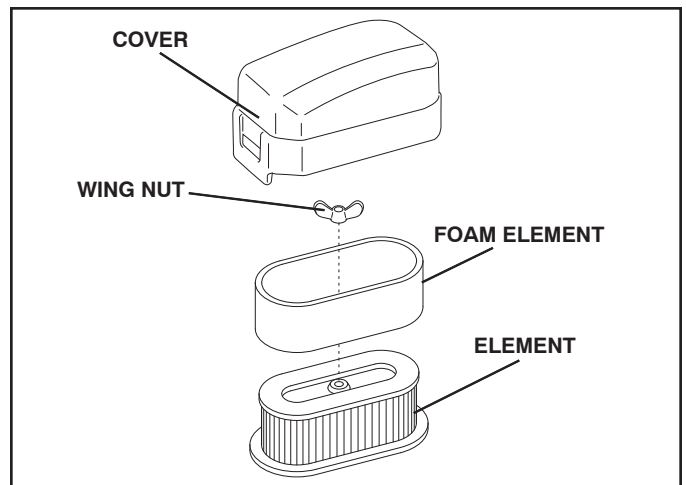

Fig. 20
- Urethane Foam cleaning (See Fig. 20)
- Second element (See Fig. 20)